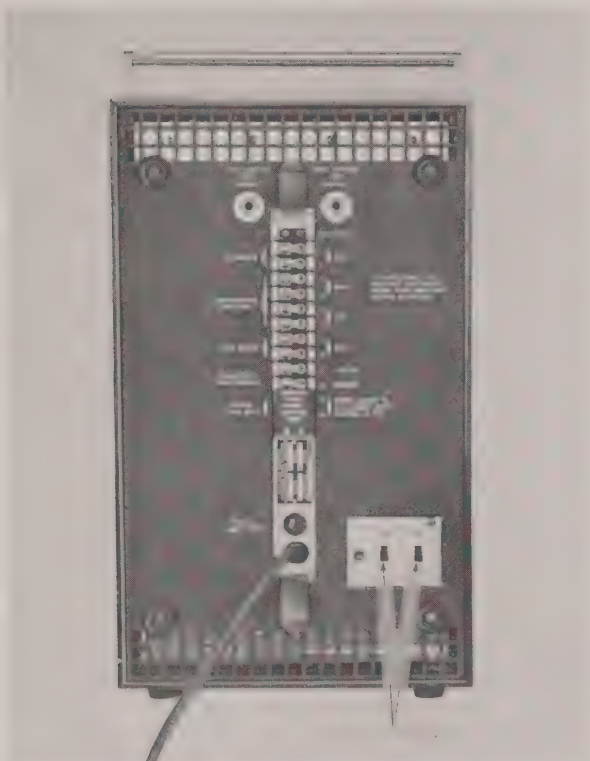

FIGURE 4-2 REAR PANEL CONTROLS
b. Rear Panel Control (Refer to Figure 4-2)